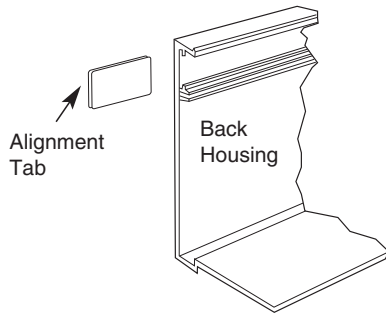

Fig. 6
8. Mount the heaters on the wall using screws, bolts or anchors (by installer) which suit the wall construction. Alignment tabs can be inserted in adjoining back housings to assure even alignment. See Fig. 6 for details.